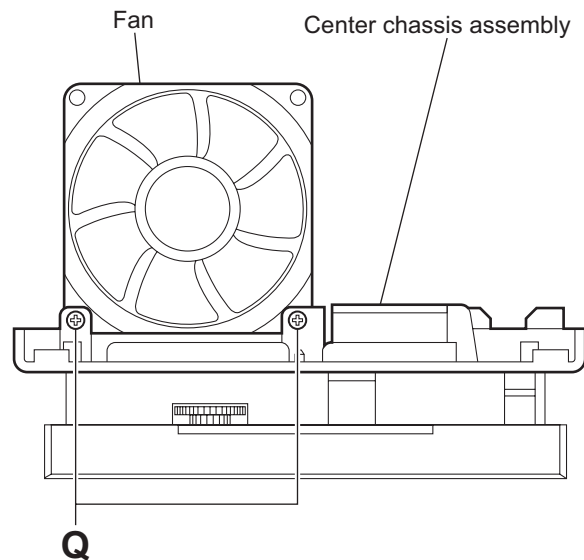

Fig.17
3.1.9 Removing the fan (See Fig.17)